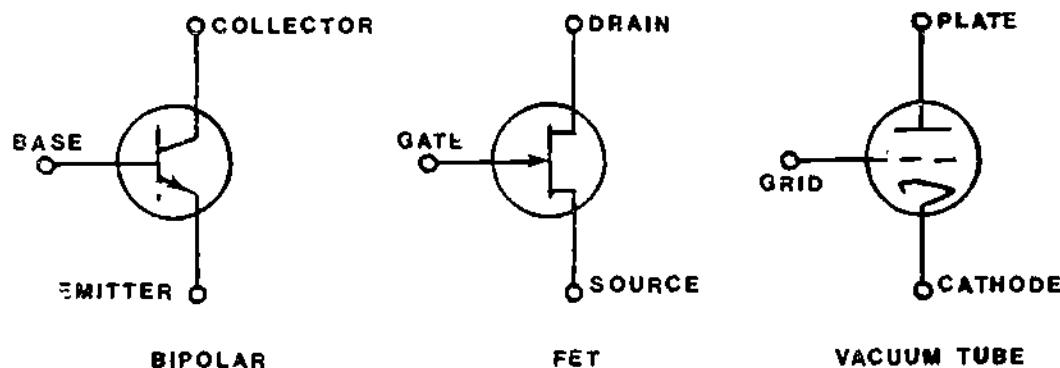

Figure 2
4.) First you will learn about JFETs. The schematic symbol for a type of junction FET, or JFET, is compared to the symbols for a two-junction (bipolar) transistor and a vacuum tube in Figure 2.